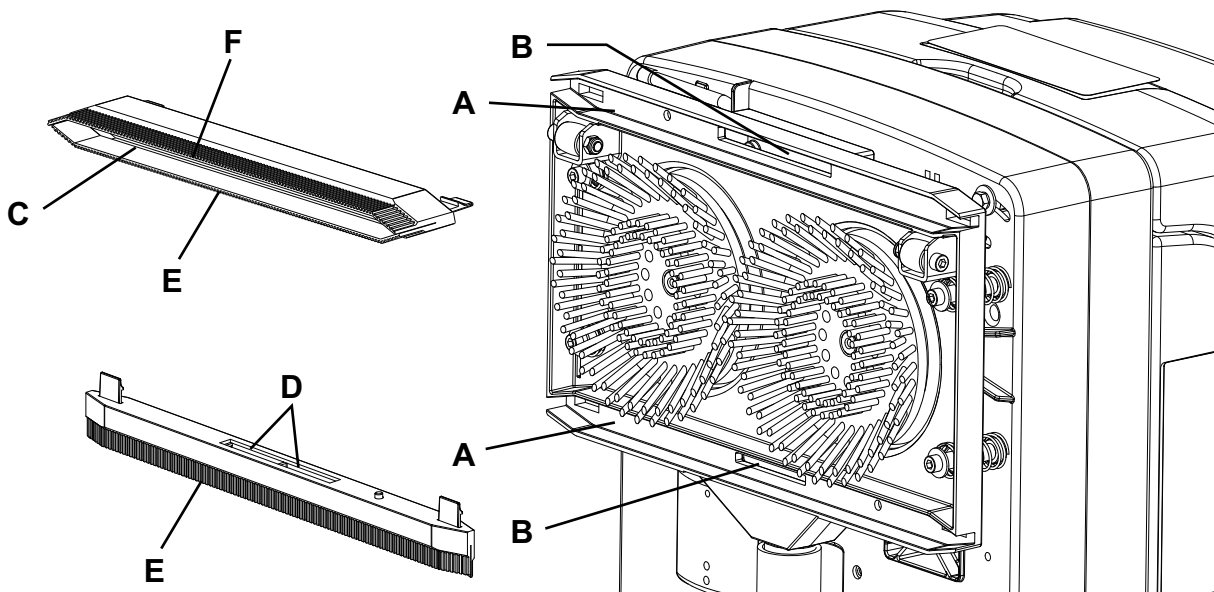

Figure 4
2. Make sure that the power supply cable (10) is disconnected from the electrical mains.
3. To reach for the brush/squeegee-holder deck, lift the machine by using the handlebar (2).
4. Remove the squeegees from the deck by pressing the mounting springs (27).
5. Check the brush/squeegee-holder deck (9) and clean it, in particular, clean the compartments (A, Fig. 4) and the vacuum hole (B).
6. Wash and clean the squeegee. In particular, clean the compartments (C) and the vacuum hole (D) from dirt and debris.
7. Check that the blade (E) and the blade (F) are integral and free from cuts and lacerations; if necessary replace them.